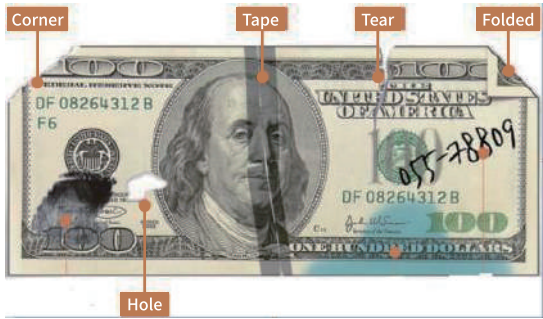

Figure 7-11 Bil Damaged Ways
- (1)The bill size is out of the range according to machine specification.
- (2)The banknote is damaged with different ways such as lack of corner, tape, hole, tear and folded.
- As shown in Figure 7-11, it is not recommended to count this kind of bills.